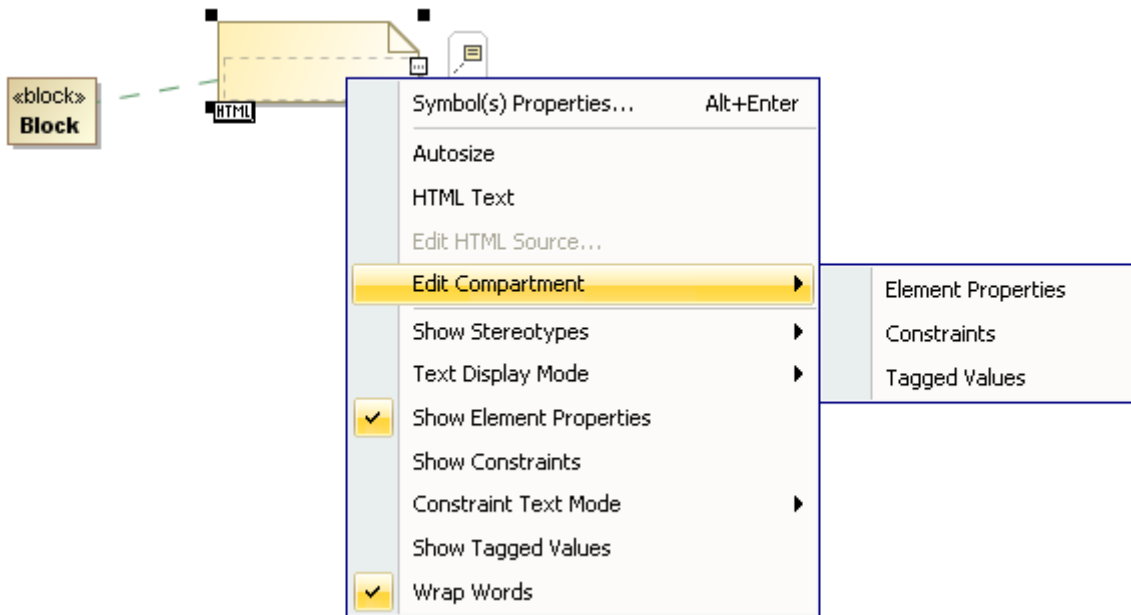

Figure 52 -- Edit Compartment Context Menu Group
- Select the context menu items in Edit Compartment menu group (Figure 52).